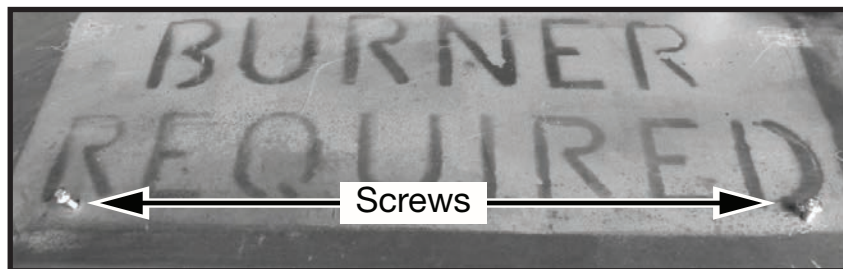
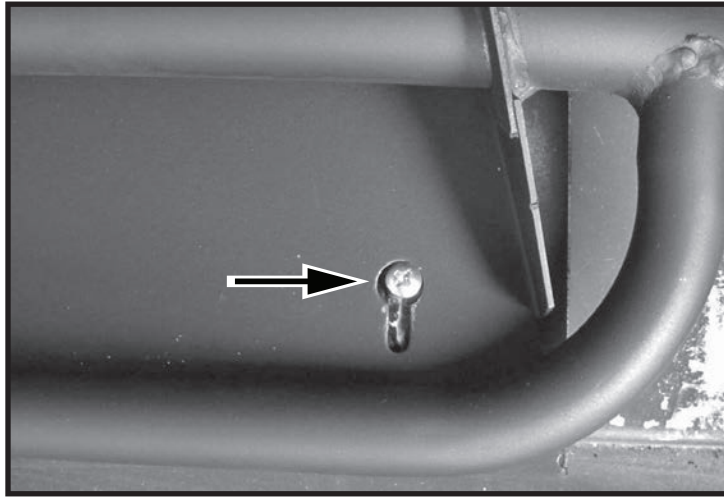

Figure 2: Firebox base.
Figure 3: Burner assembly over top of right side screw.
1. Place the keyhole slots of the burner (Figure 3) over the two screws located on the firebox floor (Figure 2).